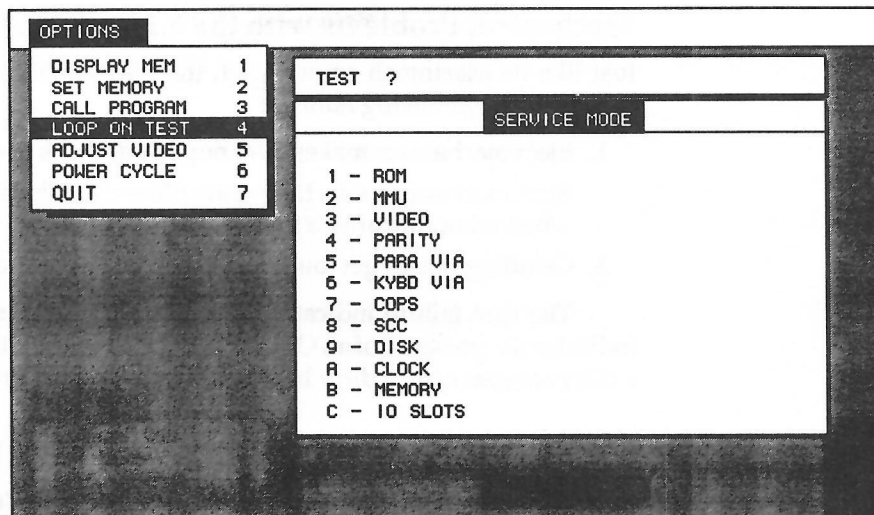

Figure 13-16 The Lisa's built-in service mode. Use with caution!
5. Hold down the Apple key and press the s key. S presumably stands for service. Case is irrelevant. Pressing S, or s, will engage the service mode as shown in Figure 13-16.